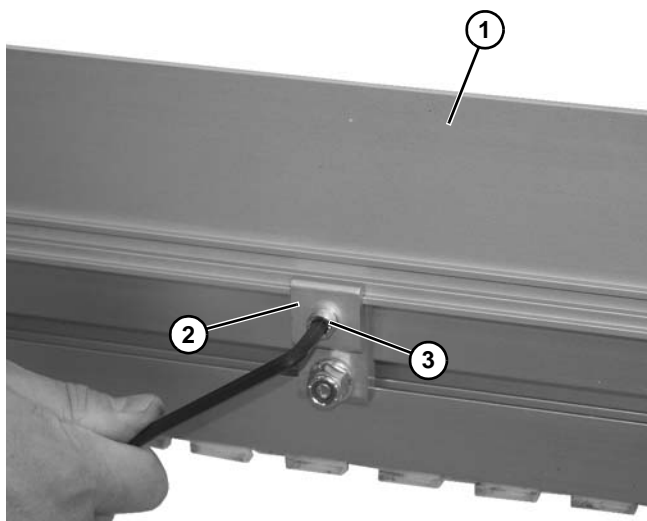

Figure 60
5. Install guide (**Figure 60, item 1**) and retaining clip (**Figure 60, item 2**) to conveyor side rail with socket head screw (**Figure 60, item 3**).